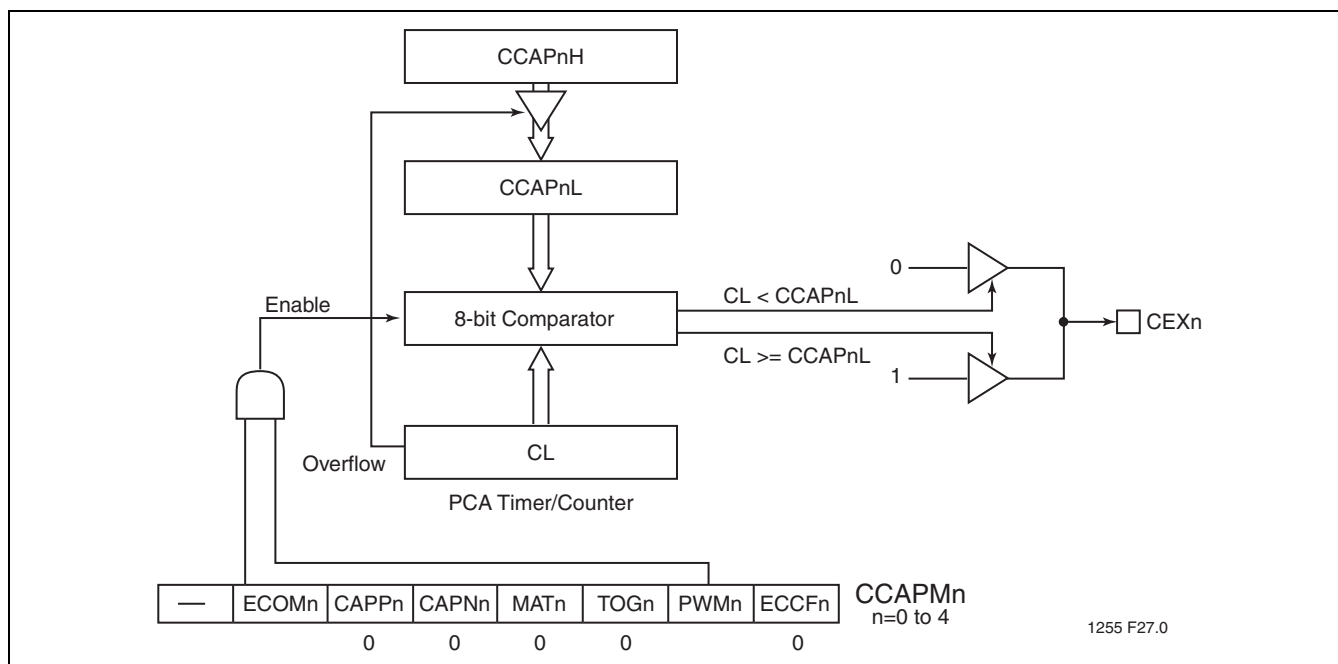

FIGURE 8-5: PCA Pulse Width Modulator Mode
The Pulse Width Modulator (PWM) mode is used to generate 8-bit PWMs by comparing the low byte of the PCA timer (CL) with the low byte of the compare register (CCAPnL). When  $CL < CCAPnL$  the output is low. When  $CL \geq CCAPnL$  the output is high. To activate this mode, the user must set the PWM and ECOM bits in the module's CCAPMn SFR. (See Figure 8-5 and Table 8-7)